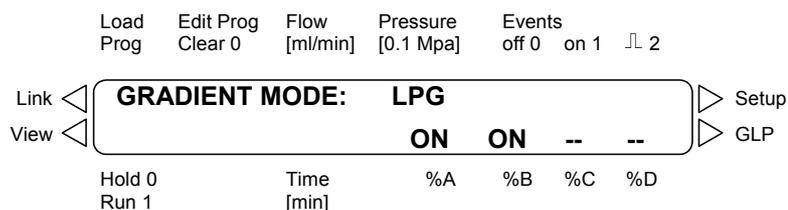

Fig. 13 Example for a gradient setup with solvents A and B in all programs
Fig. 13 on page 17 gives a detailed example for gradient mode selection.
8. The display should appear as shown in Fig. 13.